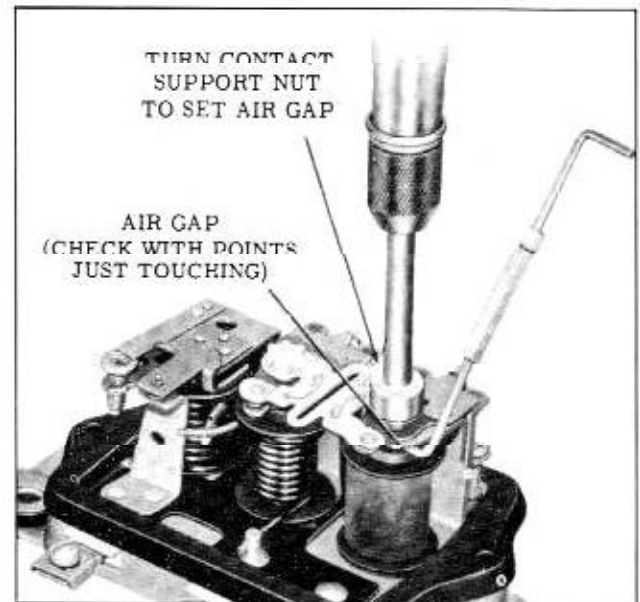

Fig. 13-33 Voltage Regulator Air Gap
1. Place fingers on armature directly above core and move armature down until points just close. Measure air gap between armature and center of core (.020"). Check to see that points close simultaneously. To adjust air gap, loosen 2 screws at back of relay and raise or lower armature as required. (Fig. 13-33)